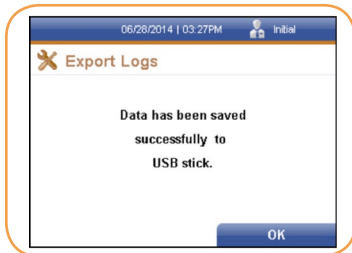

FIGURE 123
3. A window confirming that the data has been successfully saved to a USB stick is displayed (Figure 123).